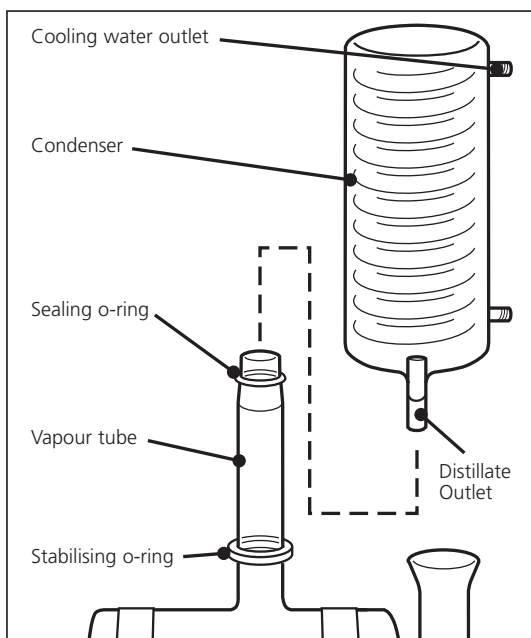

Fig. 1a
6. Take the 1m length of 8mm hose from hose kit I/WH48/1/B and connect one end to the distillate output of the condenser (Fig. 1a). Secure with a tie wrap. Pass the other end of the tube through the cabinet hole, (Fig. 1, item 21) if to be wall mounted, and hole, (Item 16) if bench mounted.